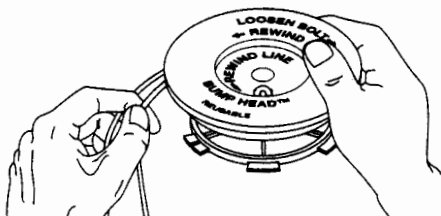

Fig. 32
- Wind the lines in tight even layers, onto the reel (Fig. 32). Wind the line in the direction indicated on the inner reel. Place your index finger between the two lines to stop the lines from overlapping. Do not overlap the ends of the line. Proceed to step 11.